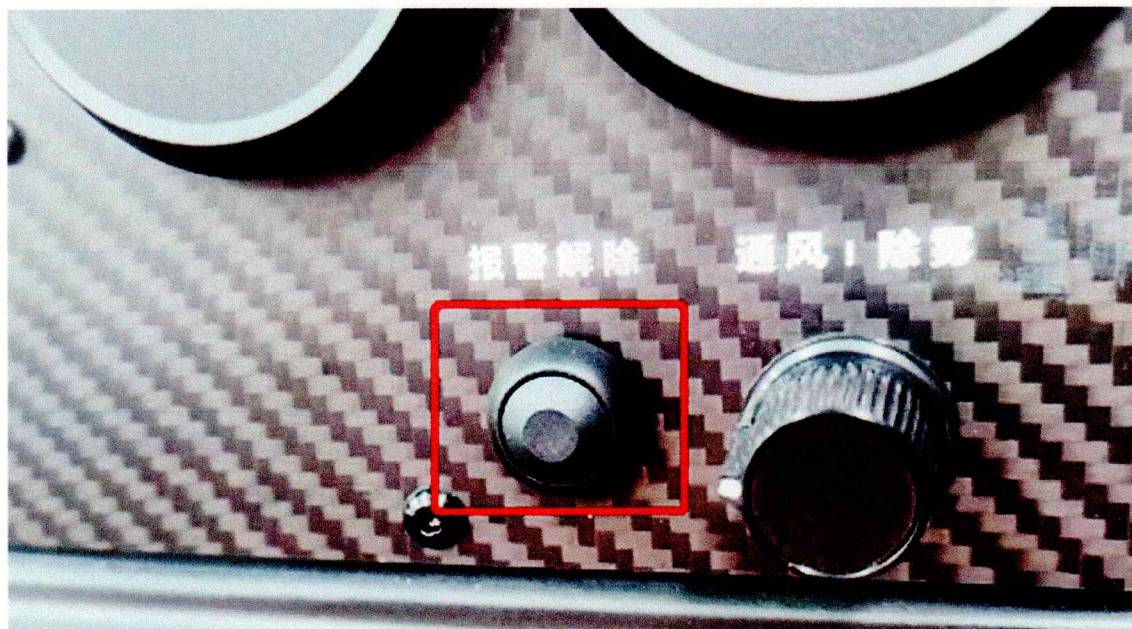

figure 7 Installation diagram of the reset button on dashboard
- b. Install the reset button into the newly opened hole on the dashboard. (As shown in Figure 7)